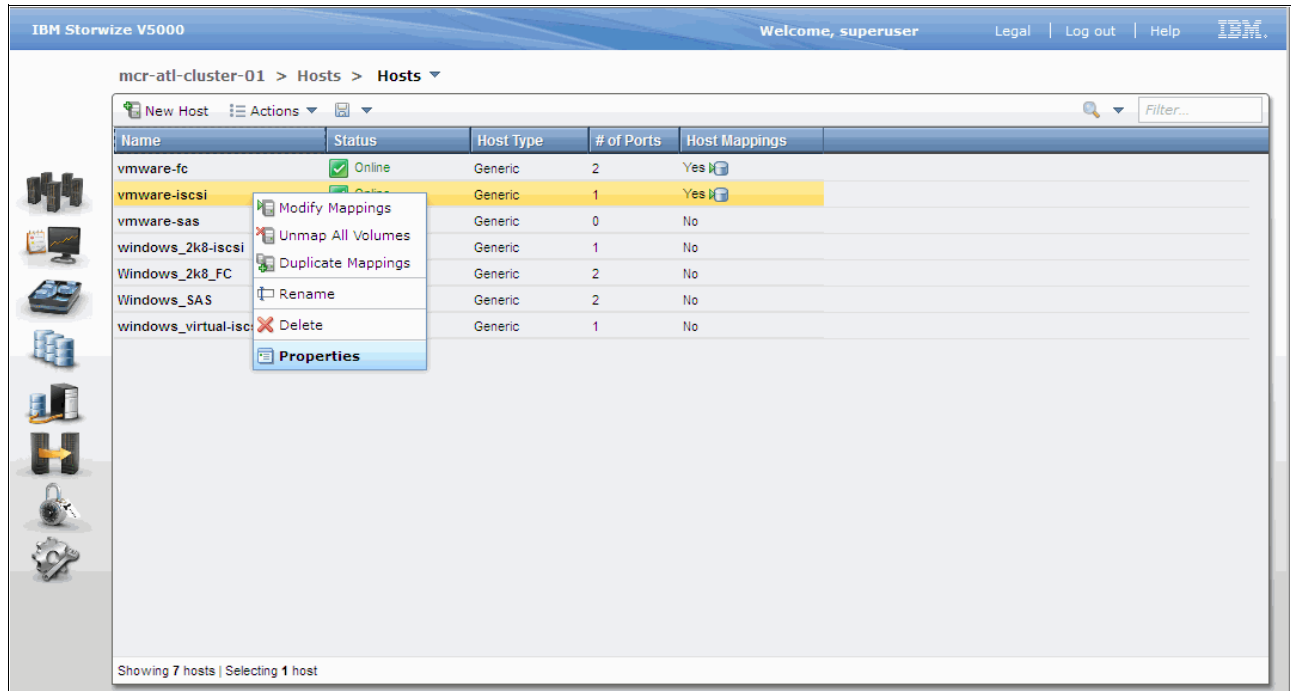

Figure 5-79 Select iSCSI ESX host properties
1. Right-click your VMware ESX iSCSI host in the Hosts view and select **Properties**, as shown in Figure 5-79.